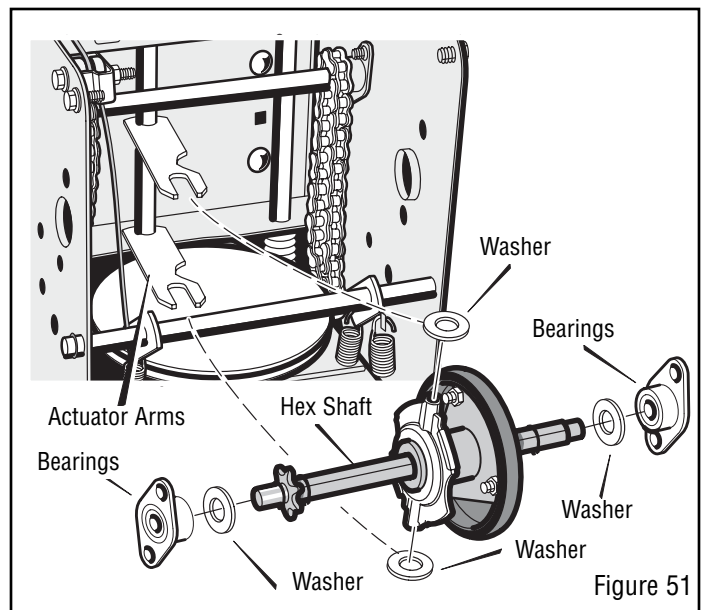

Figure 51
13. Install the **hex shaft** and **bearings** with the four bolts removed earlier (see Figure 51).